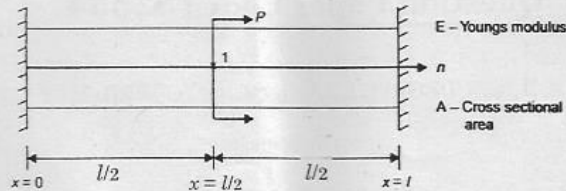

Fig. 11 (a)
11. (a) Using Rayleigh-Ritz method, determine the expressions for displacement and stress in a fixed bar subject to axial force P as shown in Fig.11 (a) Draw the displacement and stress variation diagram. Take 3 terms in displacement function. (13)